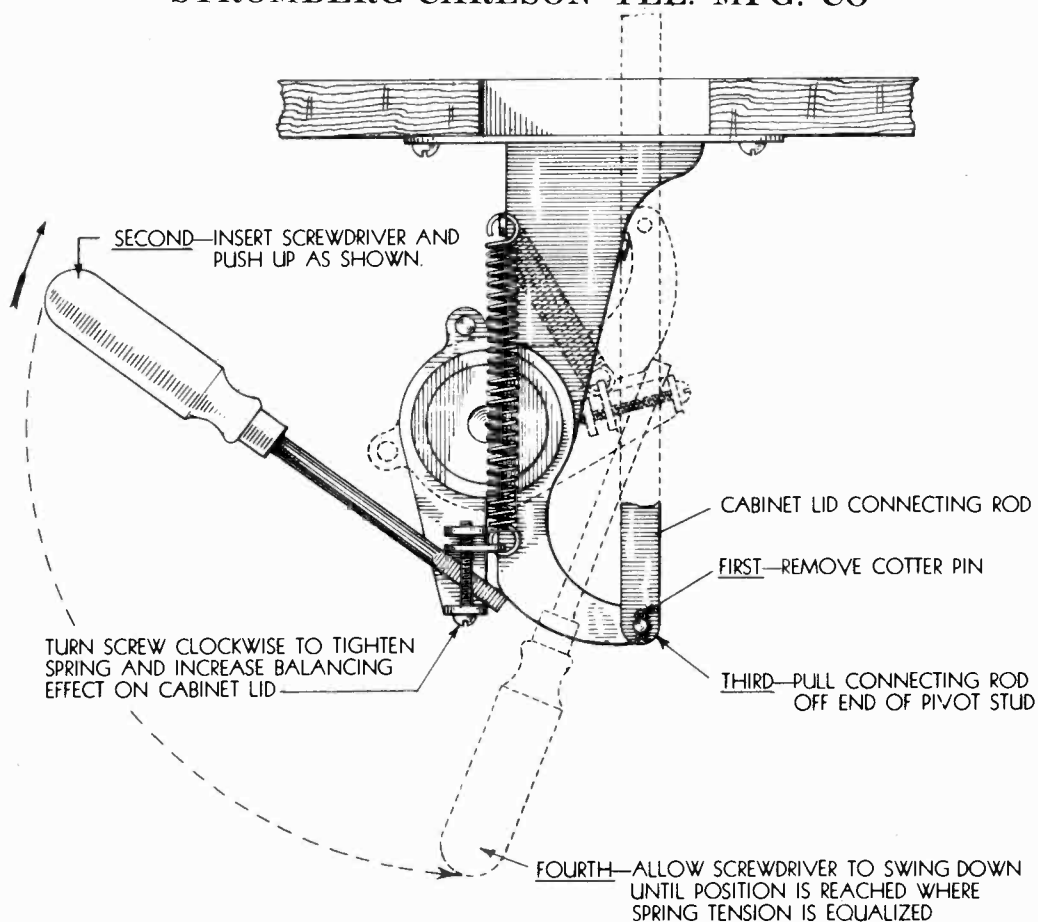

Fig. 19 - Releasing Cabinet Lid Stay.
- cabinet by first removing a cotter pin and forcing the lift stay connecting rod from the pivot stud, taking care that the counterbalance spring lug does not snap back and pinch the finger. See Fig. 19.